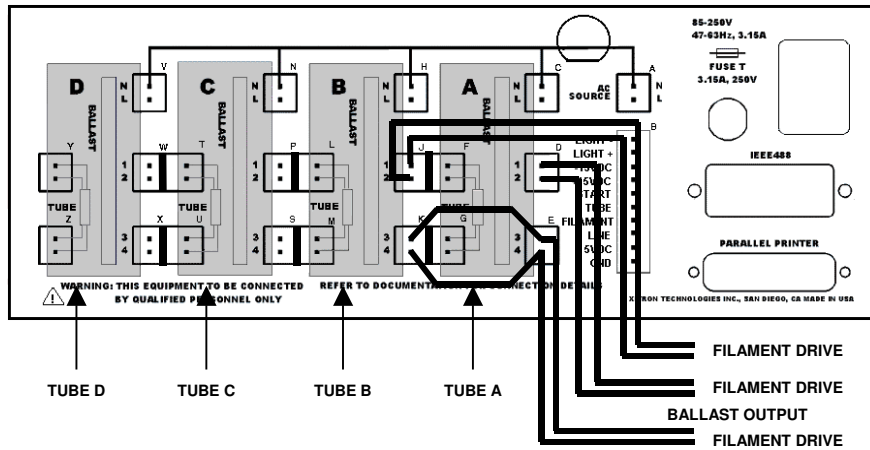

Figure 10. Example of Parallel Filament Outputs from a Ballast
- Wire the filament output from the ballast to two (or more) sections of the 2574R connections in parallel as shown in *Figure 10*.